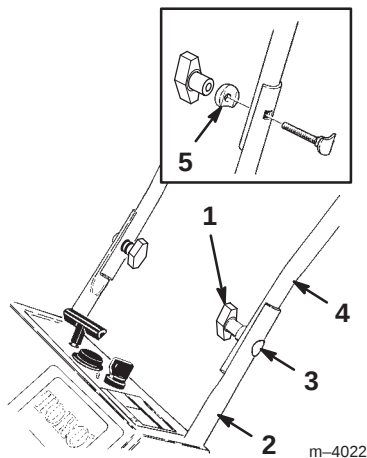

Figure 2
1. Position the ends of the upper handle section on the inside of the lower handle section and align the holes (Fig. 2).
2. Insert the oval-head bolts into the aligned holes in the handle sections with the bolt heads on the outside of the handle (Fig. 2).
Note: Ensure that the oval-head bolts and the curved washers are properly installed (See inset in Fig. 2).